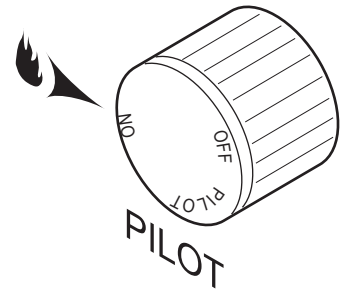

Figure 41 - On Position
Depress and turn the knob counterclockwise  to the “ON” position. *Figure 41*. It will take less than four (4) seconds for the burner to ignite.